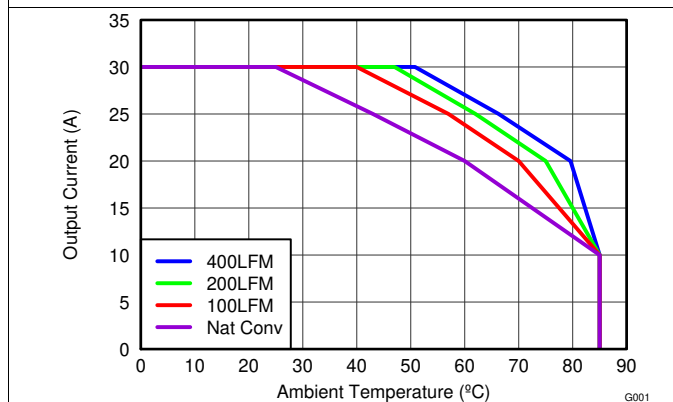
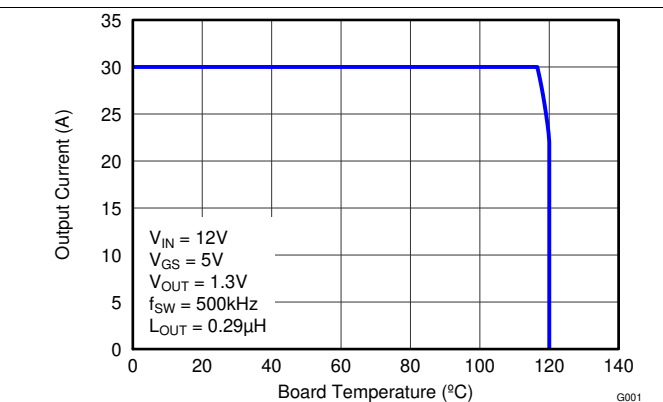

Figure 3. Safe Operating Area – PCB Horizontal Mount
Figure 4. Typical Safe Operating Area
$T_J = 125^{\circ}\text{C}$, unless stated otherwise. For Figure 3 and Figure 4, the Typical Power Block System Characteristic curves are based on measurements made on a PCB design with dimensions of 4.0 inches (W) × 3.5 inches (L) × 0.062 inch (H) and 6 copper layers of 1 oz. copper thickness. See *Application and Implementation* for detailed explanation.
$T_J = 125^\circ\text{C}$, unless stated otherwise. For Figure 3 and Figure 4, the Typical Power Block System Characteristic curves are based on measurements made on a PCB design with dimensions of 4.0 inches (W) \times 3.5 inches (L) \times 0.062 inch (H) and 6 copper layers of 1 oz. copper thickness. See Application and Implementation for detailed explanation.
The SOA curves in the CSD87384M data sheet provide guidance on the temperature boundaries within an operating system by incorporating the thermal resistance and system power loss. Figure 3 to Figure 4 outline the temperature and airflow conditions required for a given load current. The area under the curve dictates the safe operating area. All the curves are based on measurements made on a PCB design with dimensions of 4 inches (W) × 3.5 inches (L) × 0.062 inch (T) and 6 copper layers of 1 oz. copper thickness.